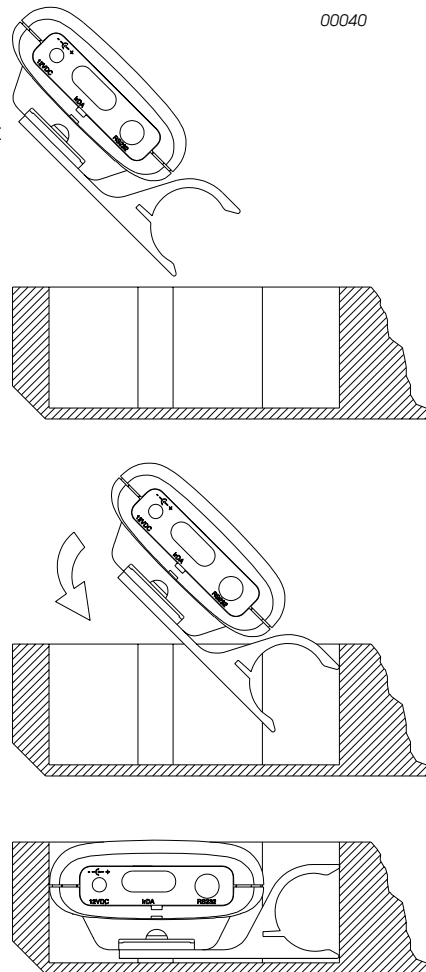

Figure 3: Installing the instrument
1. Hold the unit over the cutout at an angle of approximately 45° as shown in Figure 3.